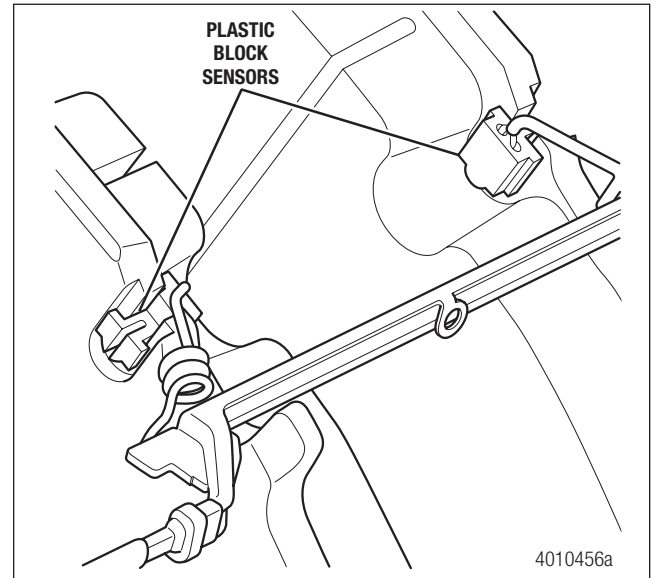

Figure 6.21 PWWI Plastic Sensor Blocks Installation
- Carefully hold the pad retainer with the PWWI in position to allow for installation of the plastic sensor blocks. Install the plastic blocks of the PWWI into the pads. Do not use excessive force, but ensure they are pushed to the bottom of the slot. Figure 6.21.